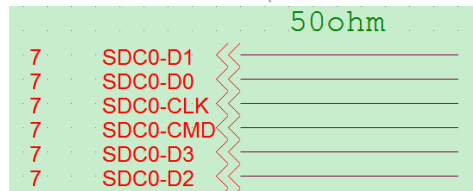

Figure 2-24 The Trace Impedance Requirement of TF Card Signal
- Must mark the trace impedance requirement of the TF card signal in the schematic diagram to facilitate PCB layout design. As shown in Figure 2-24.